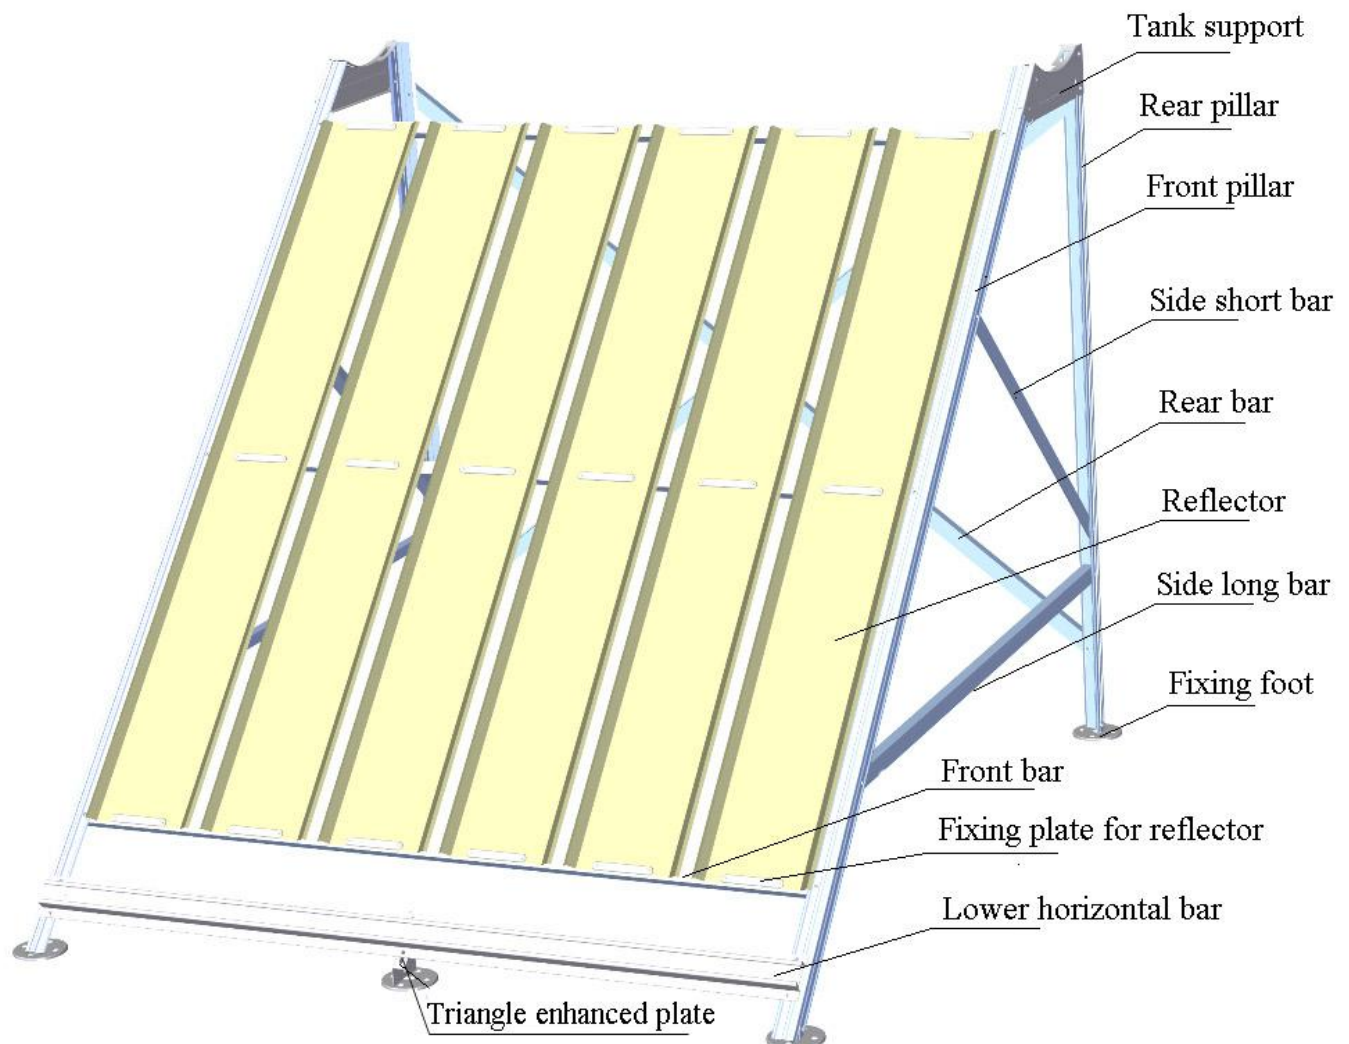

Fig. 4
1. Supporting stand assembly (see Fig 4):